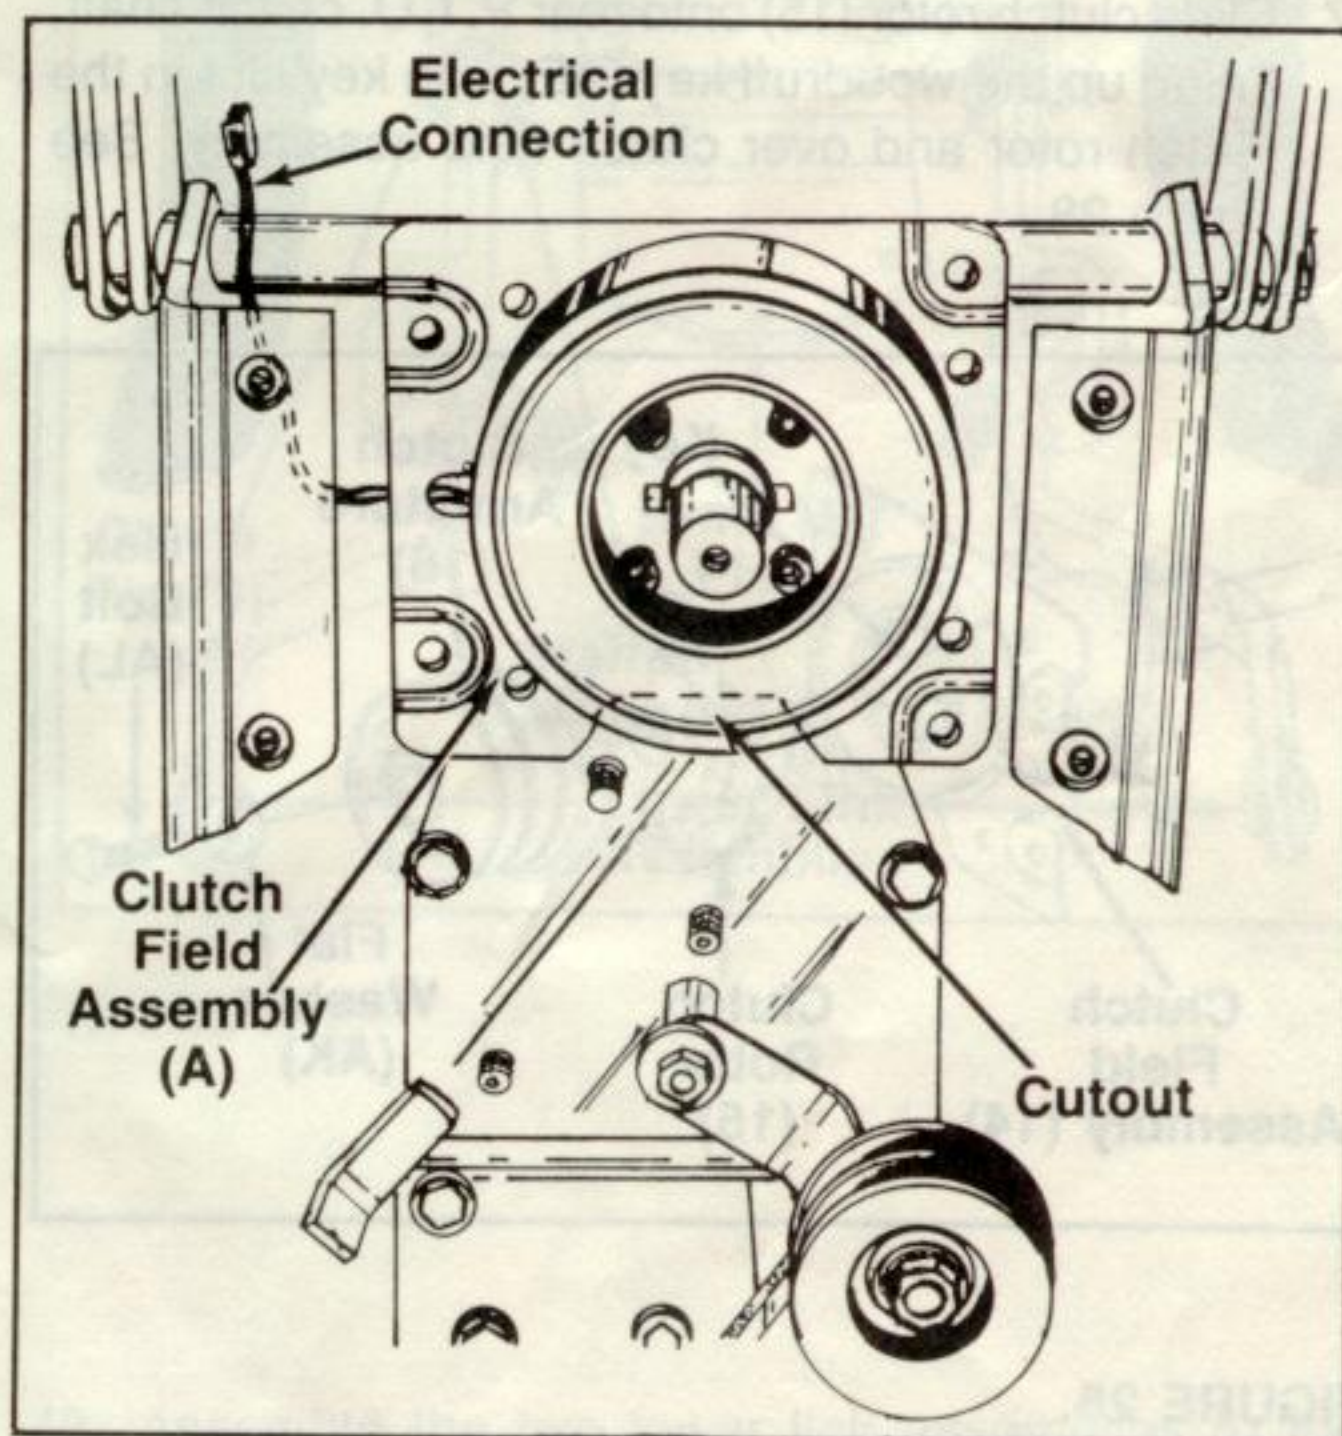

FIGURE 26.
35. Slide clutch field assembly (14) onto rear P.T.O. clutch shaft with clutch electrical connection on the left hand side and cutout in clutch field to the bottom as shown in figure 26.